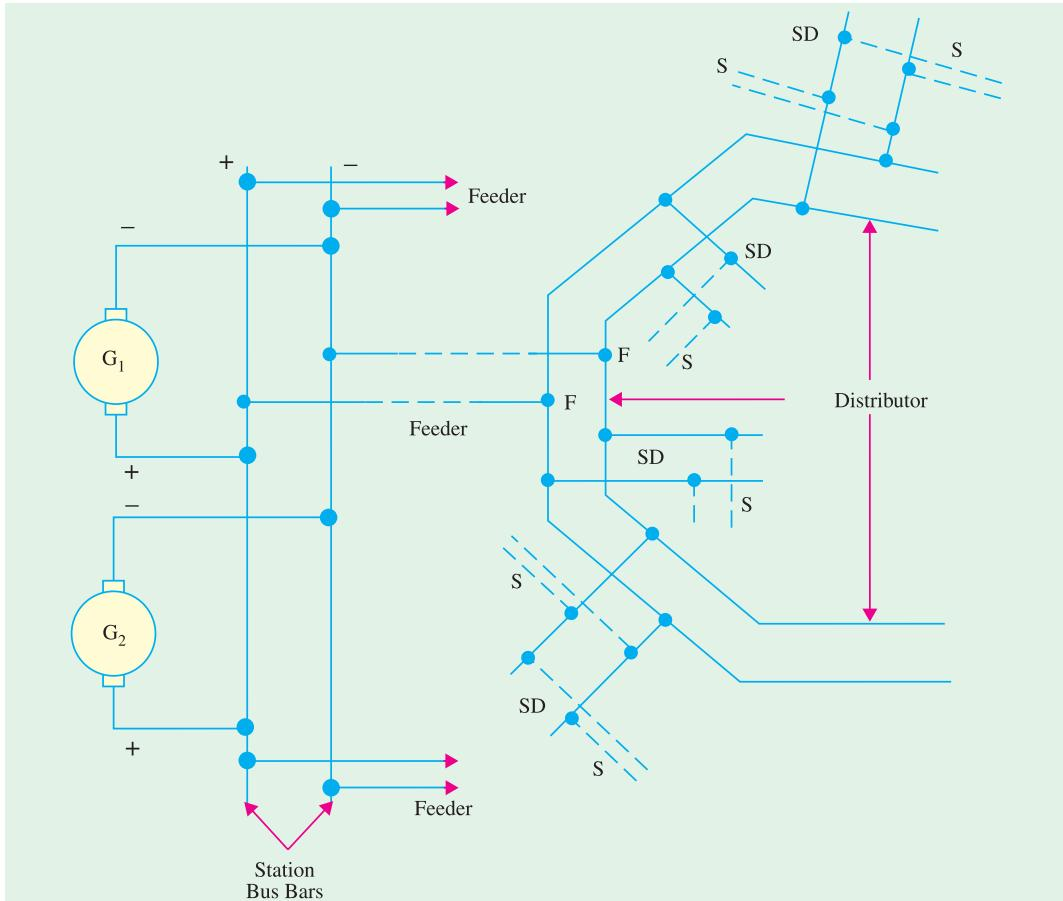

Fig. 40.2
In Fig. 40.2 is shown a schematic diagram of **low tension** distribution system for d.c. power. The whole system consists of a network of cables or conductors which convey power from central station to the consumer's premises. The station bus-bars are fed by a number of generators (only two shown in the figure) running in parallel. From the bus-bars, the power is carried by many **feeders** which radiate to various parts of a city or locality. These feeders deliver power at certain points to a distributor which runs along the various streets. The points *FF*, as shown in the figure, are known as **feeding points**. Power connections to the various consumers are given **from this distributor and not directly from the feeder**. The wires which convey power from the distributor to the consumer's premises are known as **service mains (S)**. Sometimes when there is only one distributor in a locality, several sub-distributors (*SD*) branching off from the distributor are employed and service mains are now connected to them instead of distributor as shown in the figure.